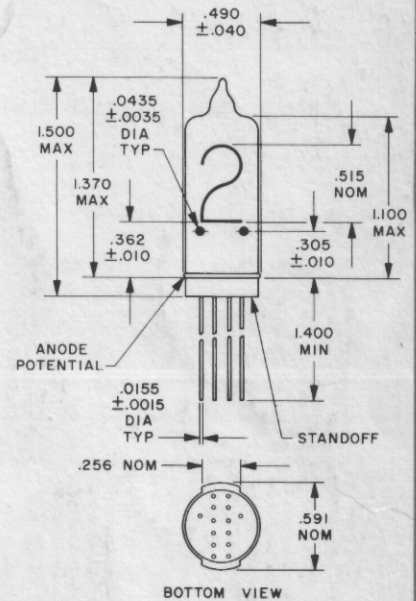

Figure 1. OUTLINE DRAWING
Outline Drawing	Figure 1
4. As noted on the tube outline drawing (Figure 1) an external portion of the tube is at the anode potential. CAUTION should be exercised.